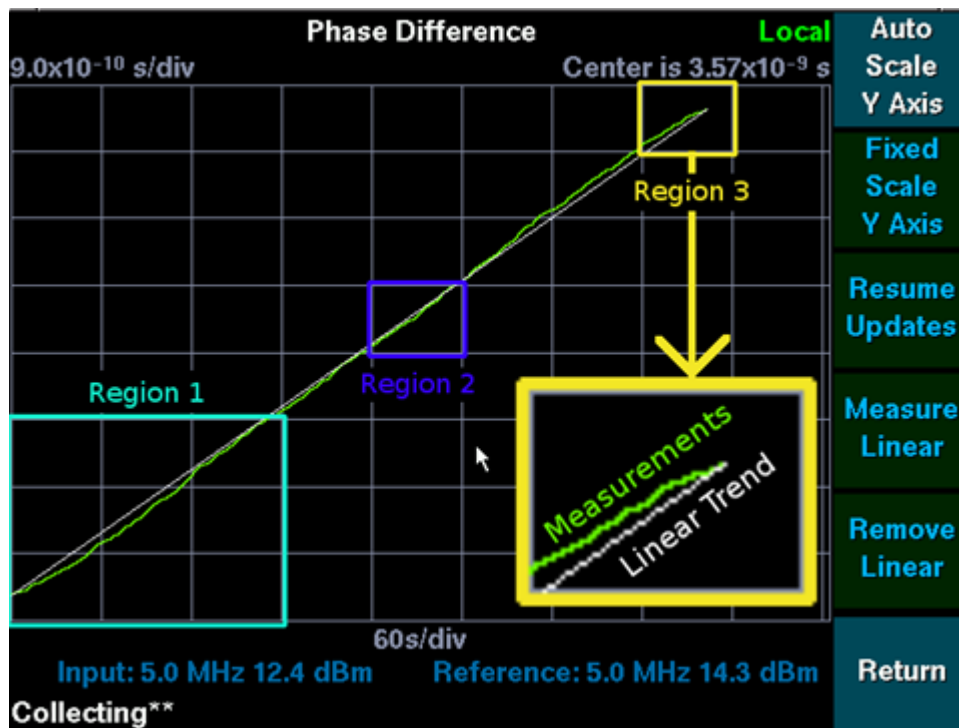
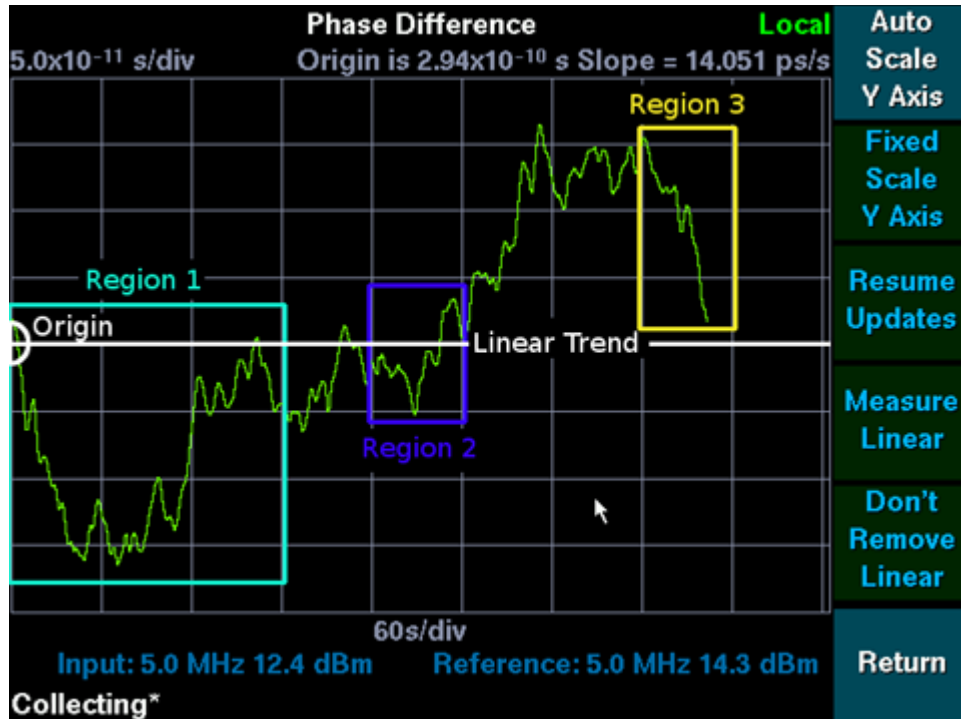
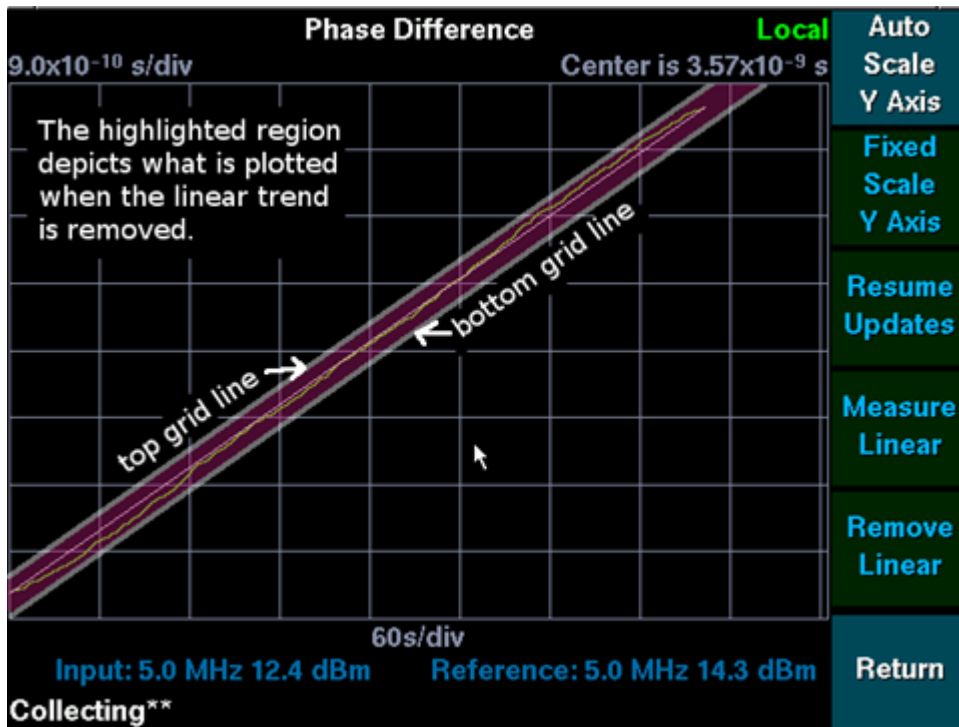

Figure 13: Linear trend in phase difference measurements
Figure 14: Linear trend removed
Figure 15: Conceptual Representation of Figure 14 in terms of Figure 13.
Consider the phase difference measurements plotted in Figure 13. Over time they exhibit the trend discussed thus far. The white line segment shows this trend, as it is measured by the **Measure Linear** softkey. The slope of this line segment (from the first to the last available measurement) is taken into consideration when the trend is measured.
Make the following observations about Figure 13:
Once the trend has been measured, it can be removed from the plotted measurements, by pressing the **Remove Linear** softkey shown in Figure 13. Removing the linear trend from this data set results in the display shown in Figure 14:
Make the following observations about Figure 14:
- *Slope* shows by how much the white line labeled Linear in Figure 14 was adjusted. It is the slope of the line through the oldest and most recent measurement at the time the linear trend was measured using the **Measure Linear** softkey.
Compare each of the rectangular regions with its counter part in Figure 13.
- Trend line intersections which were barely noticeable in Figure 13 can readily be seen.
The **Remove Linear** softkey has changed to **Don't Remove Linear**. Pressing it at this time will stop removing the trend from the data and display data set as seen in Figure 13.
Pressing the **Remove Linear** softkey essentially plots the phase difference measurements' distance from the trend last measured by the **Measure Linear** softkey. The top and bottom most grid lines in Figure 14 are parallel to the linear trend line segment in Figure 13, as depicted in Figure 15: